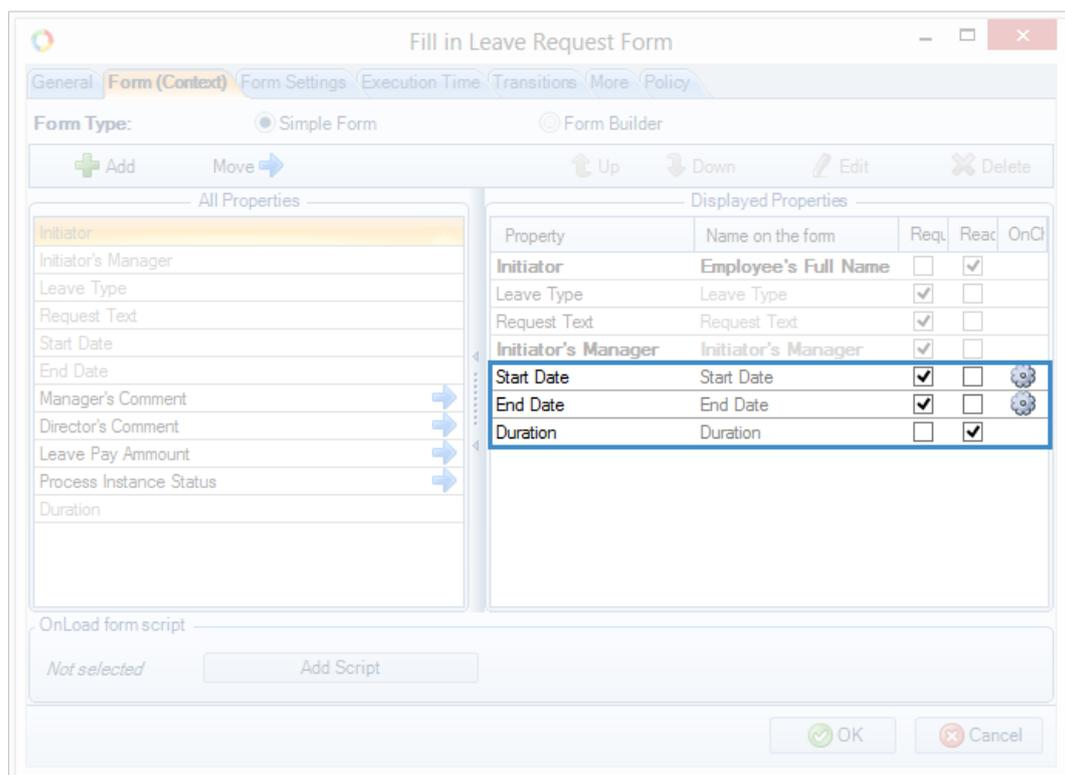

Fig. 148. A variable with a script icon
In the task settings window, you will see  icon displayed in the **Scripts** column, next to the variables that activate the script (Fig. 148).
E.g., create a script that will calculate the leave duration (in days) in the **Leave Request** process. To do this, add a new variable to the process context: **Duration**; type: **Integer**. Then add it to the form of the first task and mark it as **Read Only** (Fig. 148).